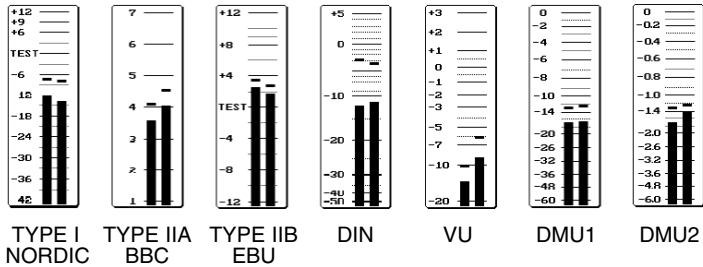

Figure 4-4. Available PPM Scales
Use the [UTIL] menu to select the different scales shown in Figure 4-4.
- 2 Press **[LIGHT]**. The Set Brightness menu is displayed as shown in Figure 4-4.
- 2 Press **[LIGHT]**. The Set Brightness/ Inv Menu is displayed as shown earlier in Figure 4-4.
See Figure 4-4 for available PPM scales.